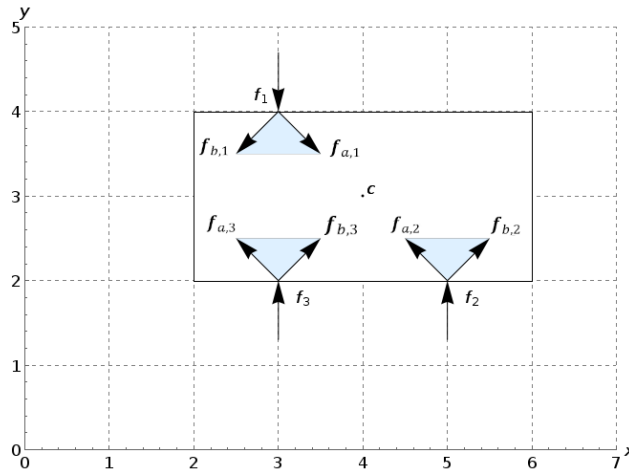

Figure 1: The friction triangles at the points \mathbf{p}_1 , \mathbf{p}_2 and \mathbf{p}_3 .
2. The friction triangles are shown in Figure 1.